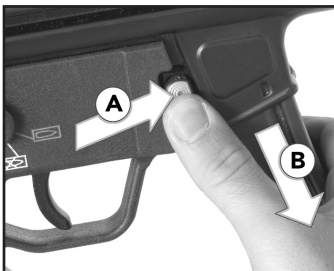

Fig. 31 – Unloading
2. Remove magazine by grasping magazine housing, press magazine catch (A) and remove magazine (B) (Fig. 31).